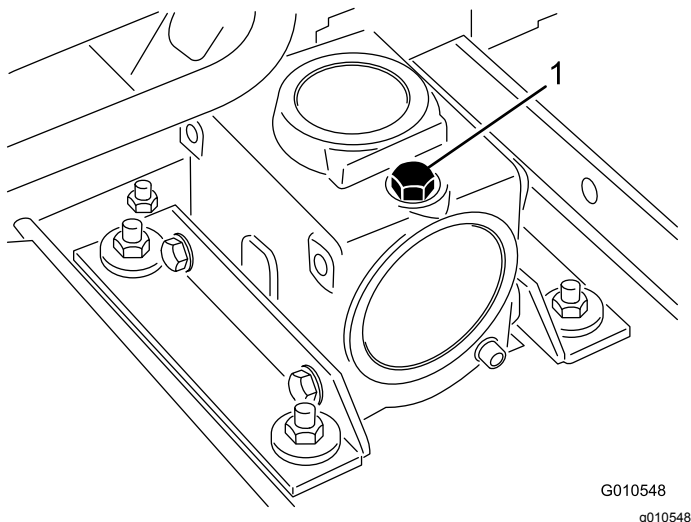

Figure 23
2. Remove the dipstick/fill plug from the top of the gearbox (Figure 23) and ensure that the lubricant is between the marks on the dipstick. If the lubricant level is low, add enough lubricant until the level is between the marks.